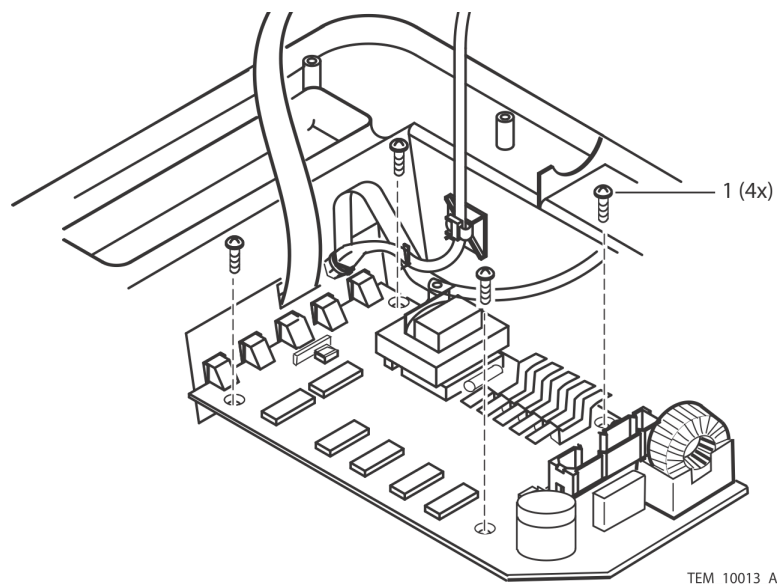

Figure 26. Control PCB Screws
17. Carefully place the Control PCB into the replacement front cover assembly and install the mounting screws. Tighten the screws to 4 to 6 in/lbs (10 to 15 cm/kg). See Figure 26.